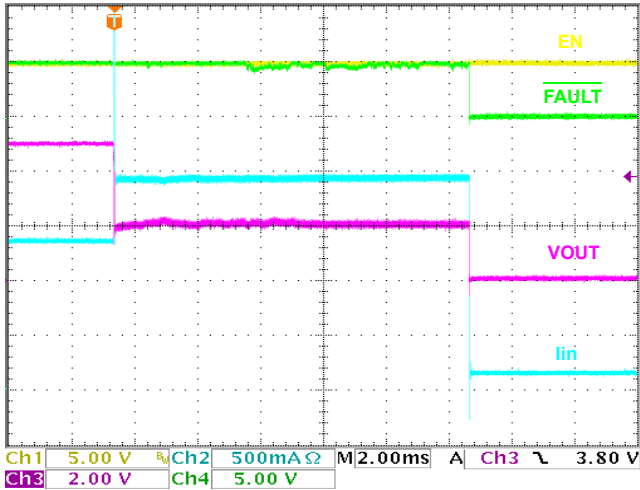

FIGURE 11. 1.5A VARIANT  $I_{LIM}$  WAVEFORM
The ISL6186 is a single channel overcurrent (OC) fault protection IC for the +2.5V to +5V environment. Each ISL6186 has a 45mΩ P-channel MOSFET power switch for power control. An enabling input and fault reporting output compatible with 2.5V to 5V logic allows for external control and reporting. This device features an integrated power switch with current monitoring, accurate current limiting, reverse bias protection, and current limited timed delay to turn-off for system reliability. See Figures 11 through 27 for typical operational waveforms including both undercurrent and overcurrent situations.
current limiting mode. Figure 11 illustrates current limiting mode for the ISL6186 product variants with 1.5A of continuous load current rating. The scope shot shows current limiting for ~12ms before it is turned off and the fault signal is asserted.